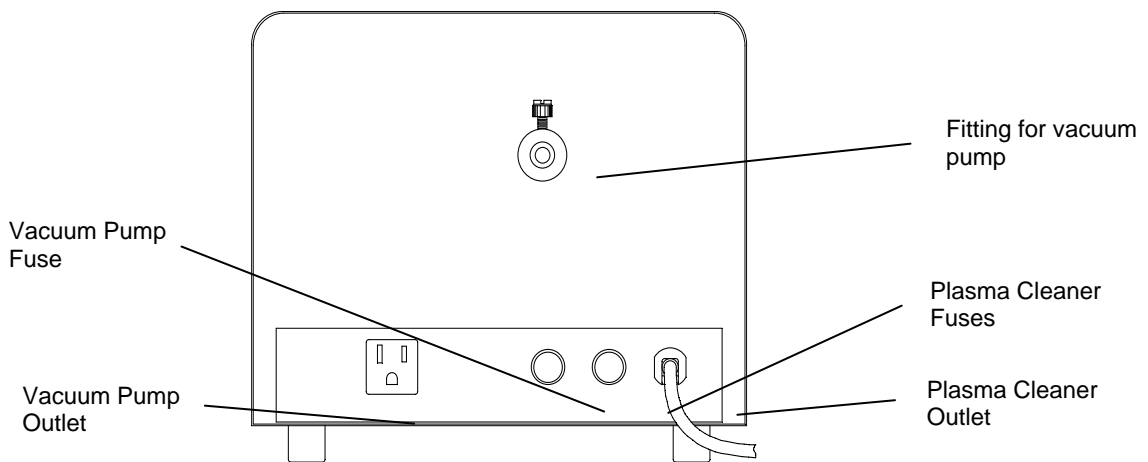

Figure 2 • Plasma Cleaner Back View (110V Model)
- Connect the fitting at the rear of the Plasma Cleaner (Figure 2) to the vacuum pump with ½" ID vacuum tubing.
- Plug the vacuum pump into the vacuum pump outlet on the back of the Plasma Cleaner (110V model, Figure 2) or into another outlet (220V model).
- Connect the fitting at the rear of the Plasma Cleaner (Figure 2) to a vacuum pump with ½" ID vacuum tubing and hose clamps over the tubing at each end.
- Plug the vacuum pump into the vacuum pump outlet on the back of the Plasma Cleaner (Figure 2) or into a second outlet.
- Connect the fitting at the rear of the Plasma Cleaner (Figure 2) to the vacuum pump with ½" ID vacuum tubing and hose clamps over the tubing at each end.